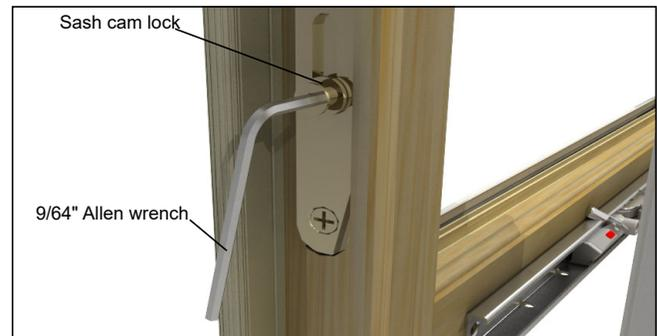

Figure 1
1. Operate the sash and place lever into the closed position to check locking force of the sash; if necessary, adjust sash cam lock to increase or decrease sash locking force. See figure 1.